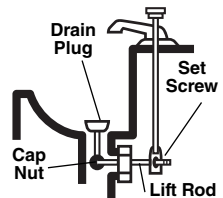

Figure 4
- For a sink with a pop up drain plug: Remove lift rod and drain plug (See *Figure 4*). Be sure to place a container under the clean out or trap to catch any water that may come out.